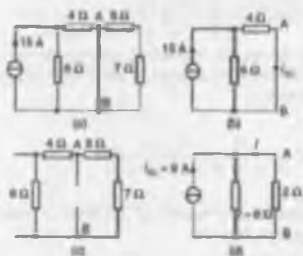

Figure 13.62
- (i) The 2Ω resistance branch is short-circuited as shown in Fig. 13.62(a).
- (ii) Fig. 13.62(b) is equivalent to Fig. 13.62(a). Hence
- (iii) If the 15 A current source is replaced by an open-circuit then from Fig. 13.62(c) the resistance 'looking-in' at a break made between A and B is given by $(6+4)\Omega$ in parallel with $(8+7)\Omega$, i.e.
- (iv) From the Norton equivalent network shown in Fig. 13.62(d) the current in the 2Ω resistance is given by: